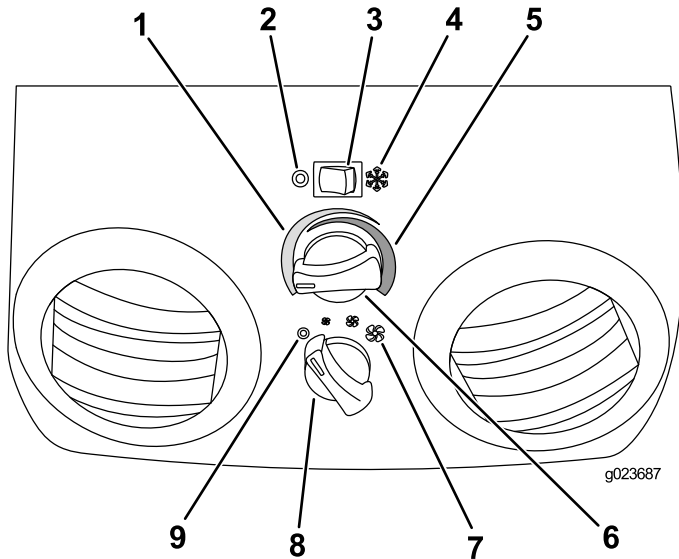

Figure 96
1. Push the air-conditioning switch to the right to turn the air conditioning to the On position (Figure 96).
3. Turn the temperature knob to the left until you reach the desired temperature (Figure 96).
4. Turn the fan-speed knob to either low, medium, or high (Figure 96).
1. Push the air-conditioning switch to the left to turn the air conditioning to the Off position (Figure 96).
3. Turn the temperature knob to the right until you reach the desired temperature (Figure 96).